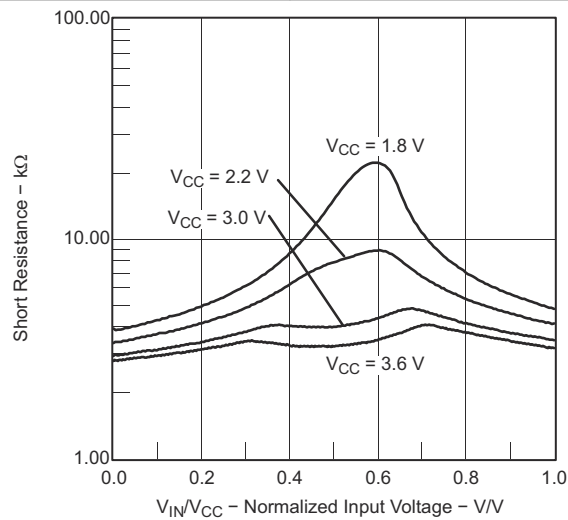

图 8-37. Short Resistance vs  $V_{IN}/V_{CC}$
- (1) The leakage current for the Comparator\_A+ terminals is identical to Ilkg(Px,y) specification.
- (2) Also see 图 8-34 and 图 8-37.
- (3) The input offset voltage can be cancelled by using the CAEX bit to invert the Comparator\_A+ inputs on successive measurements. The two successive measurements are then summed together.
- (4) The response time is measured at P2.2/CAOUT/TA0/CA4 with an input voltage step and with Comparator\_A+ already enabled (CAON = 1). If CAON is set at the same time, a settling time of up to 300 ns is added to the response time.